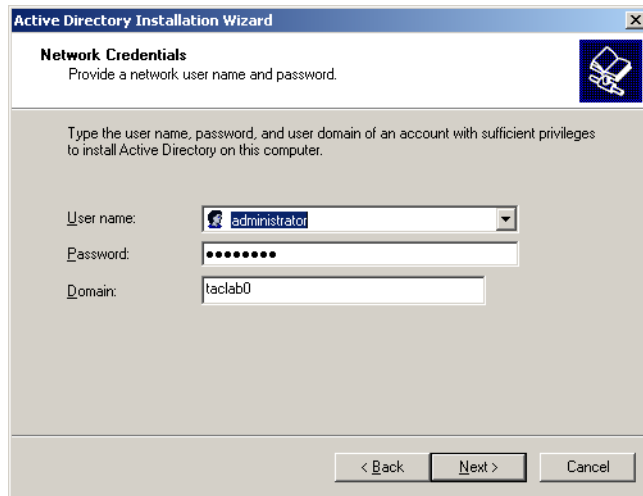

Figure D-30 Network credentials
12. In the **Network Credentials** dialog shown in figure D-30, enter the username, password and domain to be the administrator account for the domain